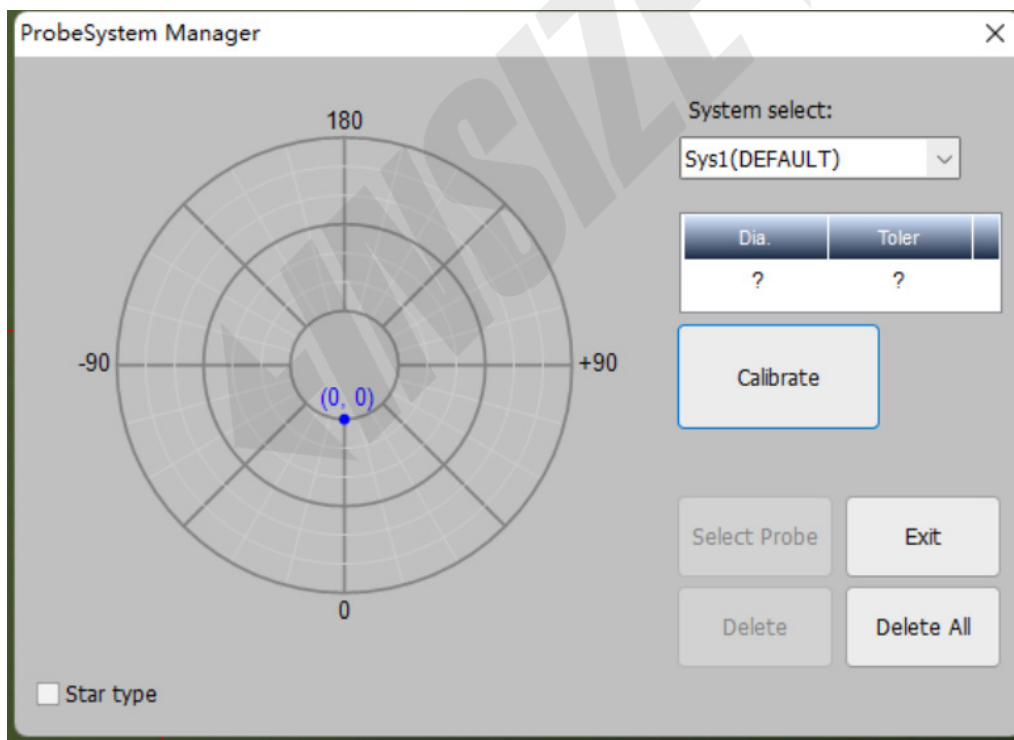

Fig.9-2
The probe system used in current system includes adding a specific probe system, cancelling a specific probe system and all probe systems shown as Fig.9-2:
(1) Select a probe in a specific probe system (The premise is that the standard probe A0C0 has been calibrated, if not, calibrate the standard probe first).
(2) Select "calibration" order in Fig.9-2, and below window will popup: